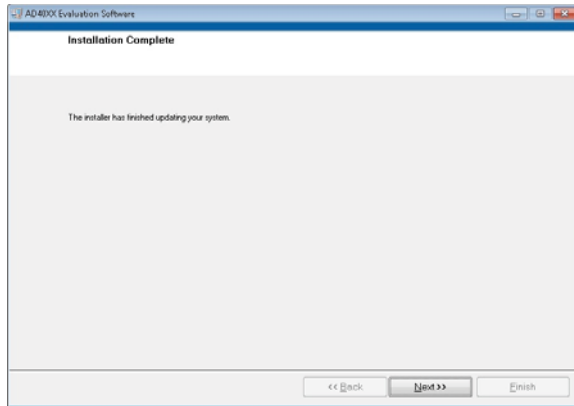

Figure 8. AD4020 Reference Design Software Installation Complete
8. After the installation progress reaches 100%, click **Next>>** to complete the installation (see Figure 8).
1. After the AD4020 reference design software installation is complete, click **Next>>**, as shown in Figure 8. This command starts the SDP-H1 driver installation, as shown in Figure 9.